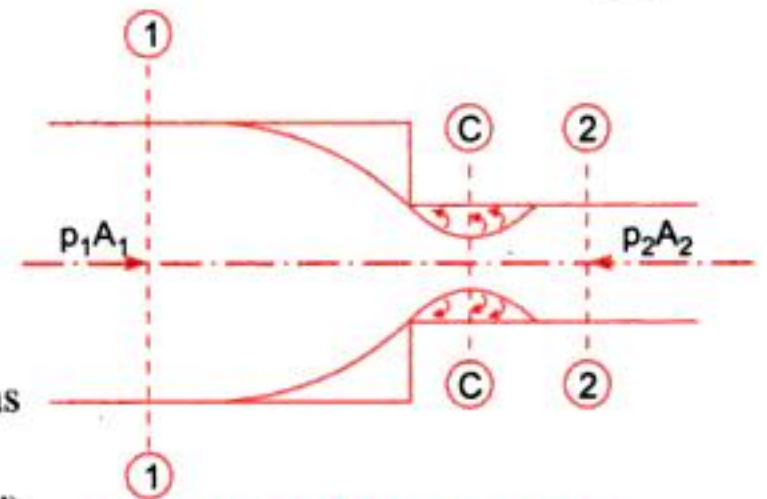

Fig. 11.2 Sudden contraction.
**11.4.2 Loss of Head due to Sudden Contraction.** Consider a liquid flowing in a pipe which has a sudden contraction in area as shown in Fig. 11.2. Consider two sections 1-1 and 2-2 before and after, contraction. As the liquid flows from large pipe to smaller pipe, the area of flow goes on decreasing and becomes minimum at a section C-C as shown in Fig. 11.2. This section C-C is called Vena-contracta. After section C-C a sudden enlargement of the area takes place. The loss of head due to sudden contraction is actually due to sudden enlargement from Vena-contracta to smaller pipe.